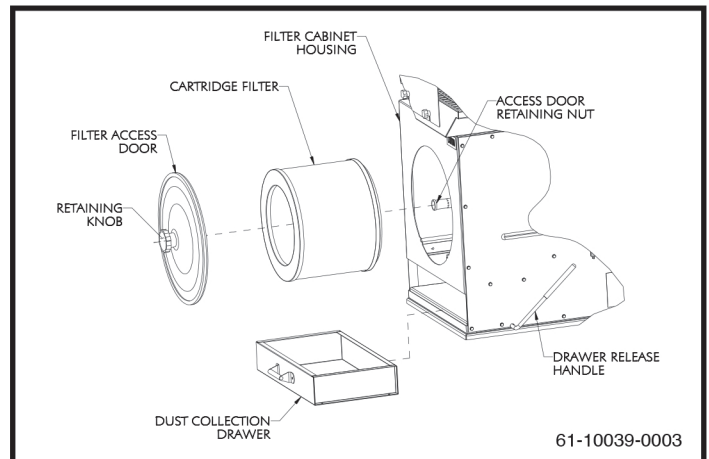

**Figure 8. Cartridge Filter Removal**
1. Remove filter access cover by unscrewing the retaining knob (see Figure 8). Tilt cover back away from unit when freed from the retaining nut to trap any fugitive dust on the inside of the access cover. Dump dust into suitable disposal container.
1. To access and remove the dust drawer located at the base of the V Series unit, you must first unseal the drawer by pulling the drawer release handle (see Figure 8) toward the filter access side of the cabinet. The drawer will move down and can be pulled out of the front of the cabinet.